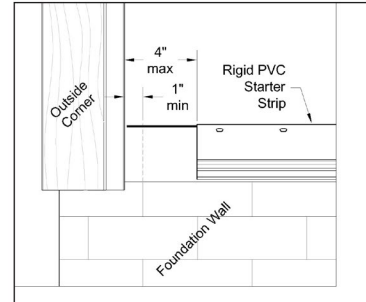

Figure 2
- Align the top of the Everlast starter strip on the level line, leave a 1" to 4" gap from the end of the starter strip & accessory nailing flange. Fasten starter strip to the wall assuring it is tightly fastened (Figure 2).